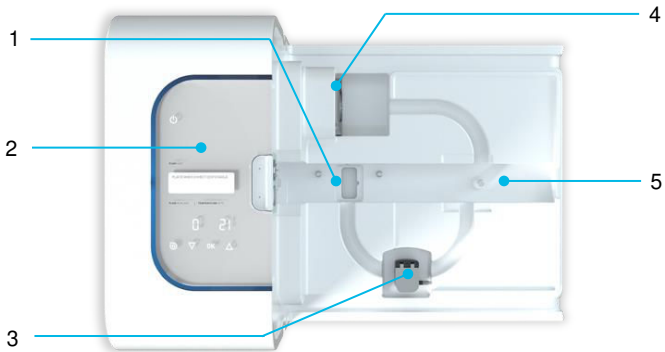
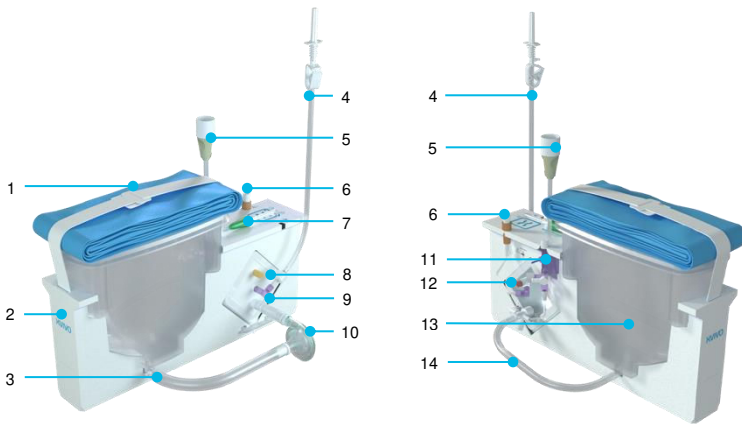

Figure 2: Top view of the Kidney Assist Transport Device without perfusion set, oxygenator drain insert, and ice reservoirs
Figure 7: Kidney Assist Transport Perfusion Set cartridge
- Ensure that the oxygenator drain insert, which is removed during cleaning, is placed back in the device before use (figure 2, item 1).
- Remove the Tyvek cover from the tray and take the cartridge (figure 7) out of the tray. Check if the product is intact and whether all connections are secure; retighten where necessary.
- Remove the metal clip, marked with a red 'remove before use' label, from the pump head. Place the cartridge in its position in the Kidney Assist Transport. Pay attention to the position of the pump head, oxygenator and reservoir. Push down on the reservoir to make sure it is resting on the temperature sensor (figure 2, item 5)
- Connect the pump head (figure 7, item 10) to the magnetic pump coupling (figure 2, item 4), press it down firmly to ensure it is placed correctly.
- Connect the pressure sensor (figure 7, item 5) to the connector panel (figure 10).
- Connect the green oxygen tubing (figure 7, item 7) to the oxygen connector (figure 10). When the oxygen connection is established, the safety valve in the connector is open and oxygen can flow. Presence of oxygen flow can be checked on the flow indicator in the oxygen cylinder compartment (figure 11). A floating ball is visible when there is oxygen flow present.
- Open the flow sensor by pushing the aluminum clip to release the lid. Insert the Reservoir inflow tubing (figure 7, item 14) and push the lid to close the sensor (figure 12).
- Unroll the filling line (figure 7, item 4) and open the tubing clamp on the filling line. Attach the spike to a bag/bottle with certified machine perfusion solution.
- Remove the yellow cap of the de-airing membrane of the oxygenator (figure 7, item 8). Please keep the yellow cap, it needs to be placed back after de-airing.
- Place the yellow cap on the de-airing membrane on the oxygenator (figure 7, item 8).